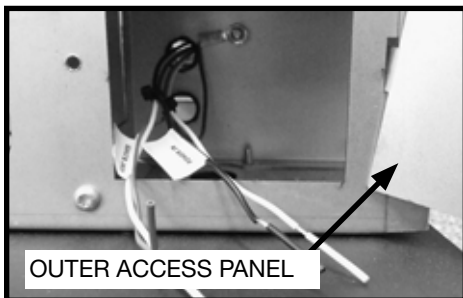
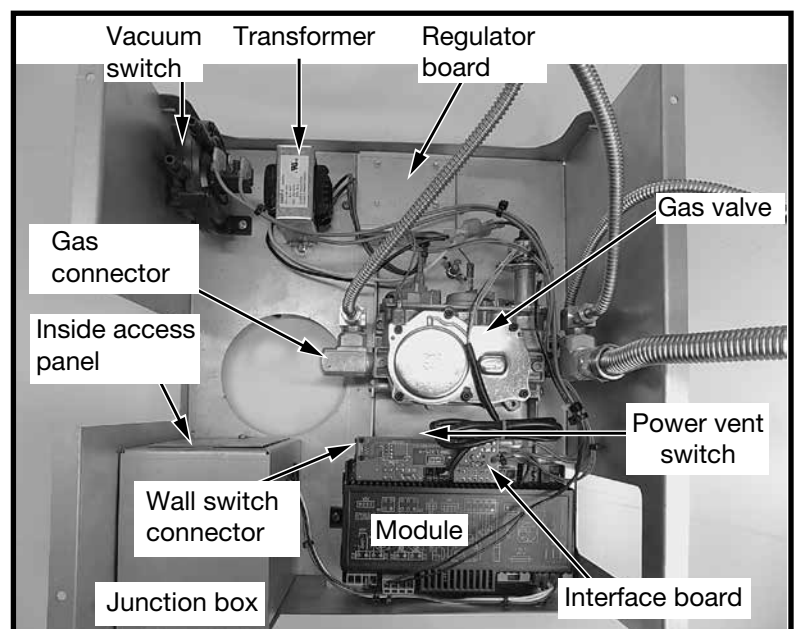
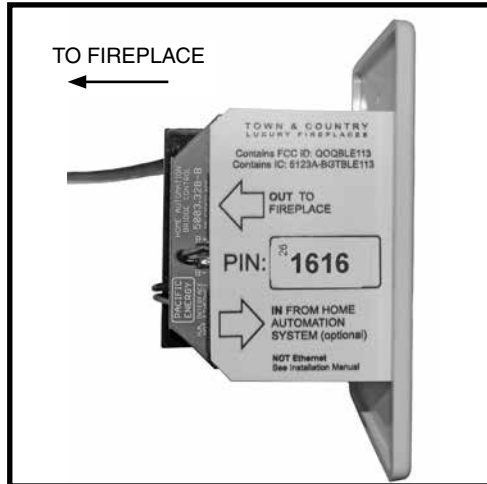

Figure 23: Junction box wiring.
Figure 24: Control box.
Figure 26: Wall switch - interface side.
- Connect 110 V. AC electrical supply to the wires installed inside the junction box (Figure 23). The fireplace is rated at 110 volts, 60Hz, 0.25A. The optional power vent kit is rated at 115 volts, 60Hz, 1.8A.
- The electrical wires can be accessed from both inside and outside the junction box by removing one of the two small access panels (Figure 23 and Figure 24).
- Route the wall switch control cable (supplied) as required to the wall switch (Figure 26).
- Attach one end of the wall switch control cable to the wall control (Figure 26), and the other end to the interface board (Figure 24).
The NV / PV (Natural Vent / Power Vent) switch (Figure 28) on the interface board (Figure 24) is set according to which type of evacuating vent system is present. If the fireplace is vented without the assistance of a power vent, the switch must be set to "NV". If using a power vent, "PV" must be selected. Follow the instructions provided with the power vent kit for proper installation.
1. Connect the gas supply to the valve (Figure 24).